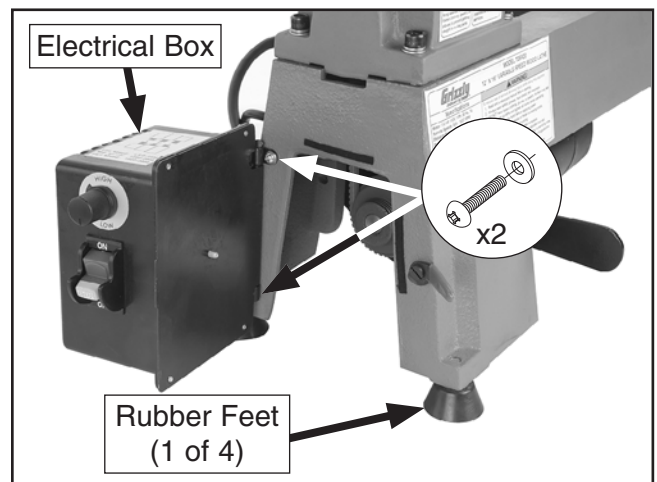

Figure 12. Rubber feet and electrical box installed.
Note: *If not mounting machine directly to a workbench, install the four included rubber feet (see **Figure 12**). Adjust feet until lathe sits level, without rocking.*
1. Mount electrical box to lathe with two pre-installed Phillips head screws and flat washers (see **Figure 12**).